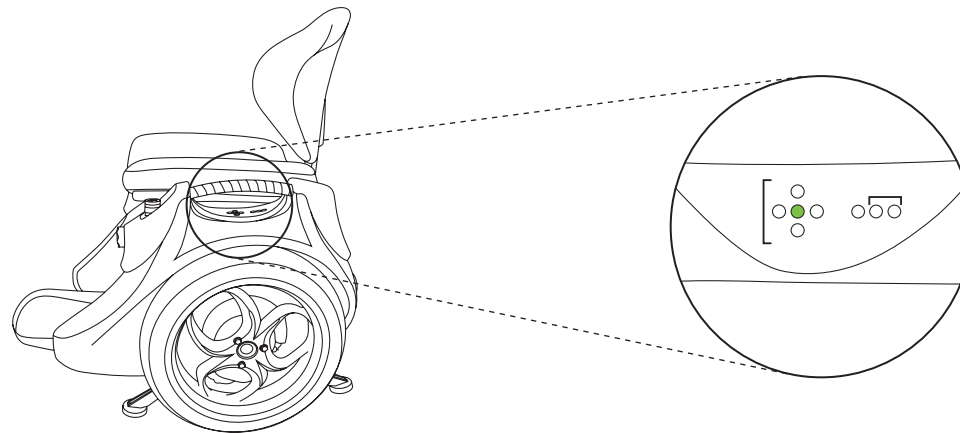

Figure 31: Display Panel with Indicator light showing the Omeo is Standby Mode
3. The Omeo will now be in Standby Mode (**Figure 31**)